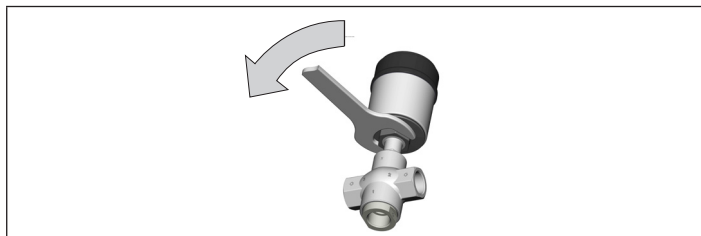

Fig. 3: Rotating the actuator
- ▶ Only turn the actuator in the specified sense of direction (see „Fig. 3“).